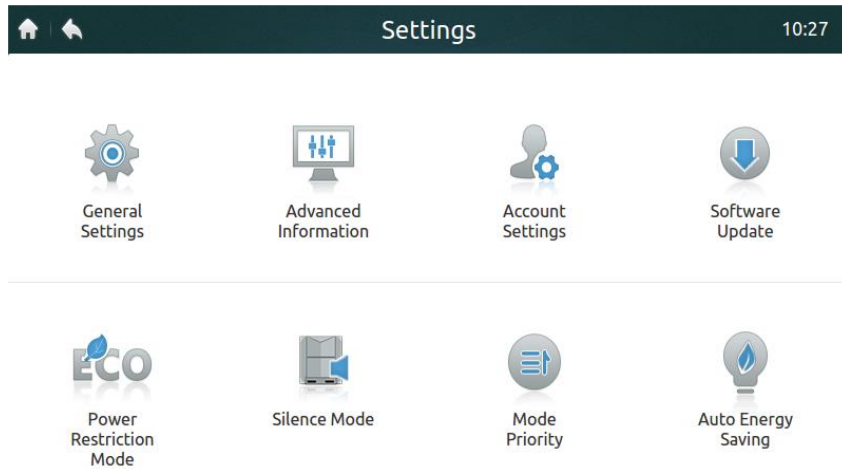
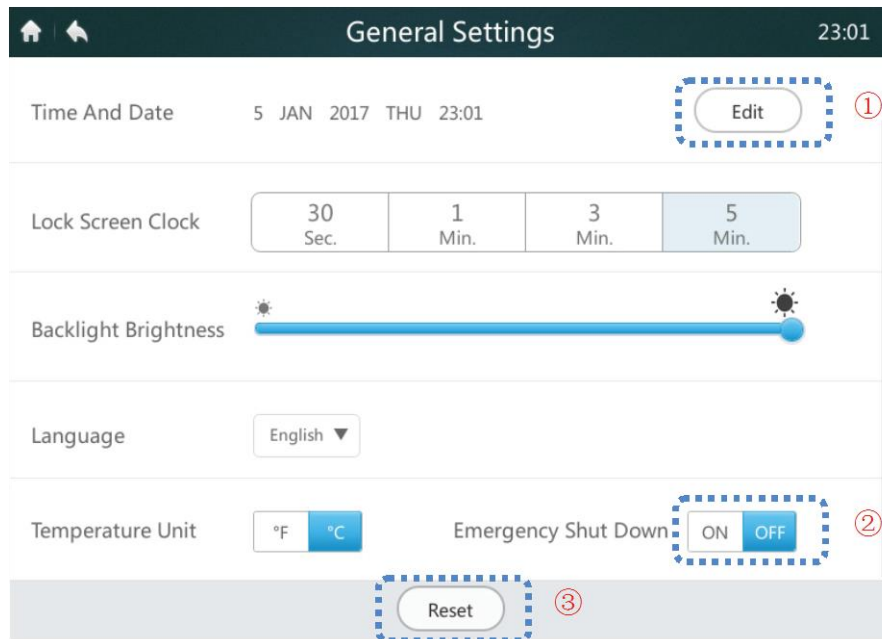
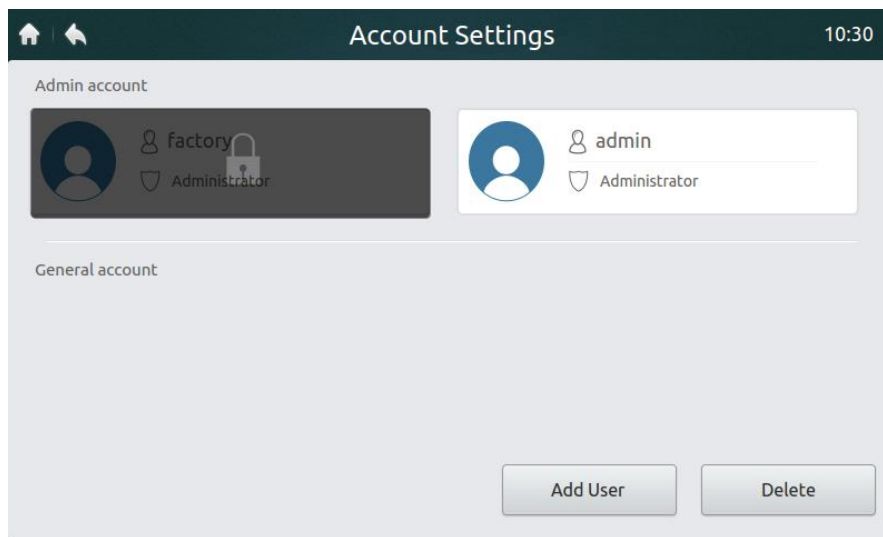

Figure 41 Homepage of Settings page
Figure 42 Homepage of General Settings
Figure 47 Homepage of Account Settings page
Time Tap "General Settings" in Figure 41 to enter the interface, as shown in Figure 42.
2. Tap the "Edit" button marked "1" in Figure 42 to access the interface below.
If an emergency occurs, tap the button marked "2" in Figure 42 to enable emergency shutdown. The centralized controller will send a shutdown command to all the IDUs and lock the remote controller. The IDUs can be restored only after the emergency switch is disabled.
Only the installation technician or administrator can enable the reset function. Tap the "Reset" button marked "3" in Figure 42 to delete user information (including the schedules, groups, common user accounts and reports), and restore the default settings (including the date, screen locking time, backlight, language, temperature and daylight saving time). The prompt will be displayed by tapping the "Reset" button. To confirm the operation, tap the "Yes" button to continue and restart the centralized controller. Tap the "No" button to cancel the reset.
2. Tap "Advanced Information", as shown in Figure 41, to enter the interface below. You can select to view the ODU or IDU parameters. For details, see Tables 12 and 13.
2. Tap "Account Settings", as shown in Figure 41, to enter the interface, as shown in Figure 47.
3. Tap the "Add User" button in the lower right corner of Figure 47 to display the interface below. Enter the user name and password (enter the password twice), and then tap the "Add" button to save the setting. Tap the "Cancel" button to cancel the setting.
4. Tap the "Delete" button in the lower right corner, as shown in Figure 47, to display the icon in the top right corner of common user account, as shown below. Tap the icon in the top right corner of the user to be deleted.